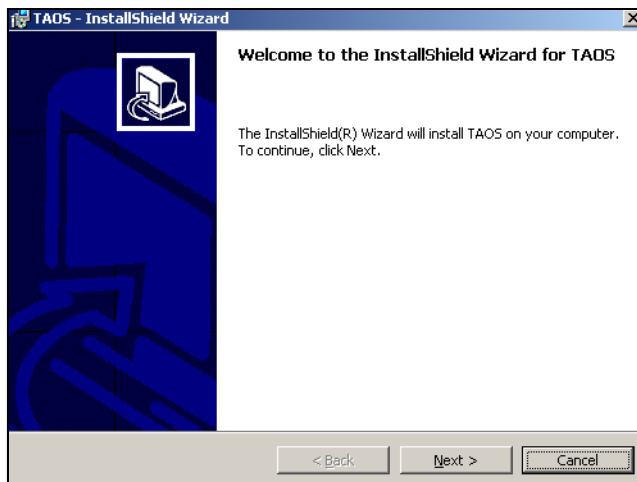

Figure 7-14 The InstallShield Wizard window, click Next.
4. The TAOS ITP InstallShield Wizard launches. Click **Next** to install (Figure 7-14).